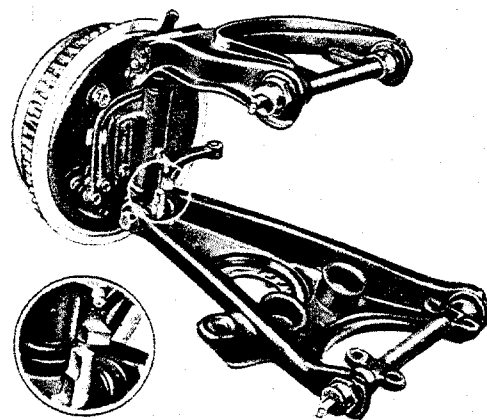

Fig. L 1/4
13. Screw in and tighten the grub screw (4) for the steering column jacket (Fig. L 1/3). On no account may the grub screw be omitted, since this screw is necessary to prevent axial displacement of the annular grooved bearing and the steering tube.
14. Turn the steering hard over to the left and to the right. In doing this, check whether the steering knuckle arm rests against the steering knuckle assembly stop face (Fig. L 1/4).